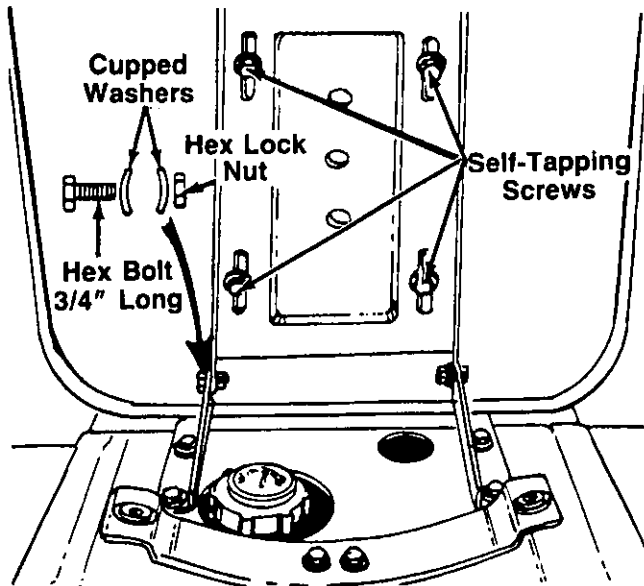

FIGURE 3.
1. Place the seat in position against the seat brackets. Secure each side of seat with hex bolt (3/4" long), two cupped washers (on the inside and outside) and hex lock nut. Crown side of washers should be against the head of the bolt and the nut. See figure 3.
The gasoline tank is located under the tractor seat. Tip the seat forward to fill the tank. Refer to figure 3. Be careful not to pinch the wire lead to the seat switch when raising and lowering the seat.